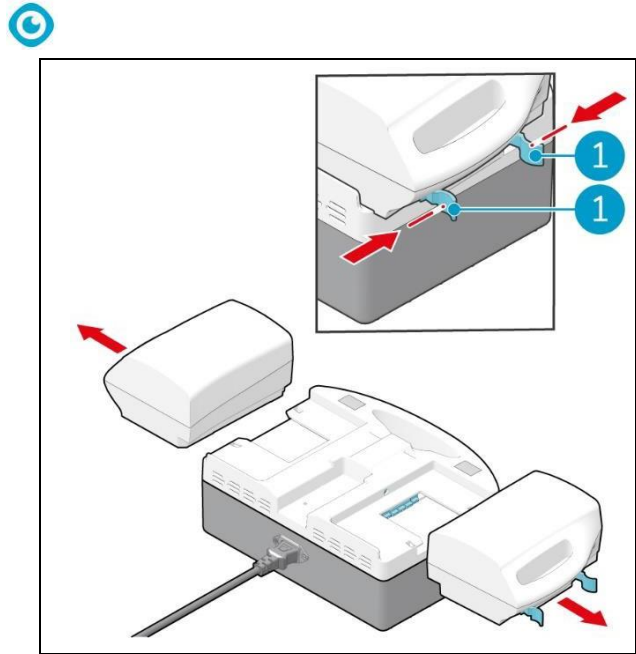

Figure 9
5. Press the plastic clips of the battery (Figure 9, pos 1) slightly towards each other.